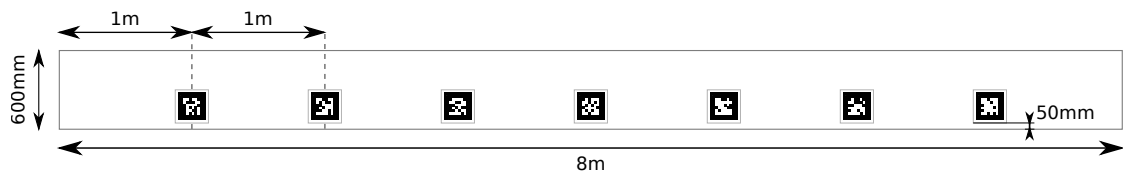

Figure 6: Seven 250mm wide markers are spaced evenly along each 8m arena wall. The markers are placed 50mm above the floor.
- 3.3.7 Each wall of the arena features seven $250mm$ libkoki markers. Figure 6 shows the positioning of these markers, whilst figure 5 shows the numbering of these markers.